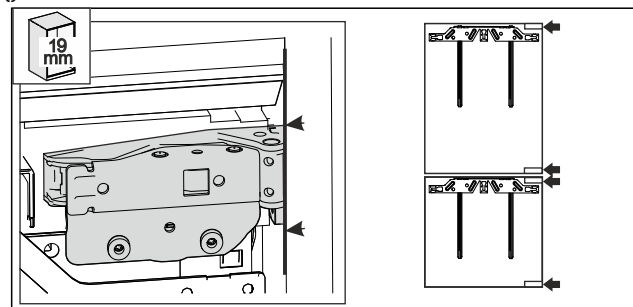

Fig. 61
- 19 mm thick cabinet side panel: the front edge of the hinges is flush with the front of the cabinet side panel. Fig. 61 ()